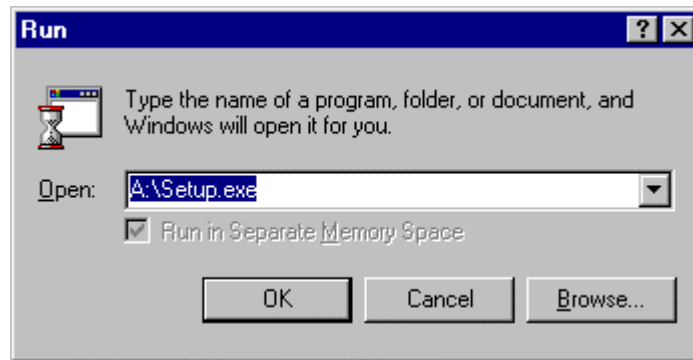

Figure 6– Run dialog box
3. Type **a:\setup.exe** (not case sensitive) in the RUN dialog box. Click **OK** to continue. See Figure 6.